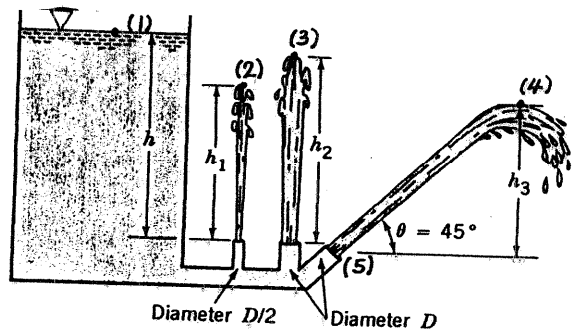

FIGURE P3.37
3.37 Water flows from the large open tank shown in Fig. P3.37. If viscous effects are neglected, determine the heights, h_1 , h_2 , and h_3 , to which the three streams rise.